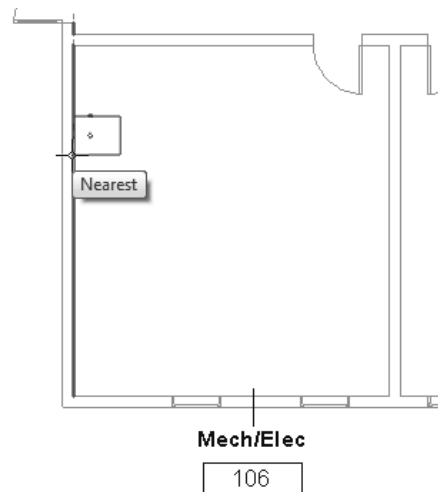

Figure 2-22
10. In the **Mech/Elec Room**, move the cursor near the outside wall. Note that the boiler automatically aligns to the wall, as shown in Figure 2-22.